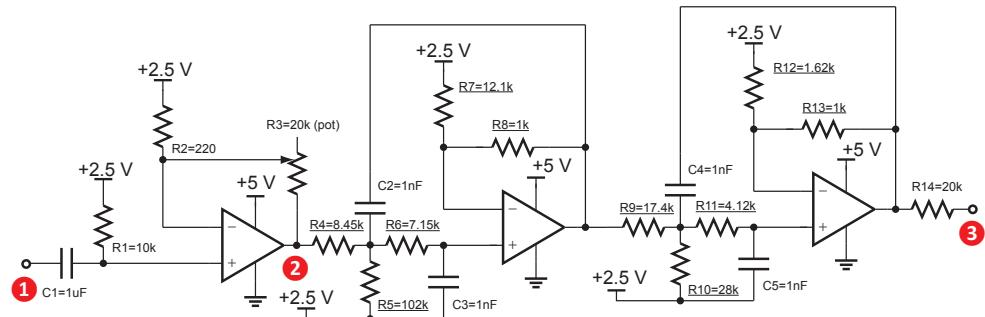

Figure 15: Schematic of the active low-pass filter. Underlined resistors values are 1% tolerance.
Fig. 15 shows the schematic of the active LPF circuit. The filter has a cut-off frequency of **15 kHz** and was designed with the TI WEBENCH filter design tool.
1. Identify the gain stage (between point 1 and point 2 Fig. 15). What is the expression of its gain? Notice that the +2.5 V supply does not affect this result, rather it simply sets the bias of the overall amplifier for maximum output swing because a single 5 V supply (battery) is used vs a dual-rail (both positive and negative) supply.
1. Identify the active LPF portion of the circuit (between point 2 and point 3 in Fig. 15). The overall filter consists of 2 low pass filters. What is the order of the overall filter and how is it determined from the schematic?
3. To measure the filter response only, input a 3 Vpp signal through a series  $1\ \mu\text{F}$  capacitor at point 2 in Fig. 15 and measure the output through R14 (at point 3 in Fig. 15). Tabulate and plot the frequency response from 100 Hz to 150 kHz. What is the cutoff frequency of the filter?